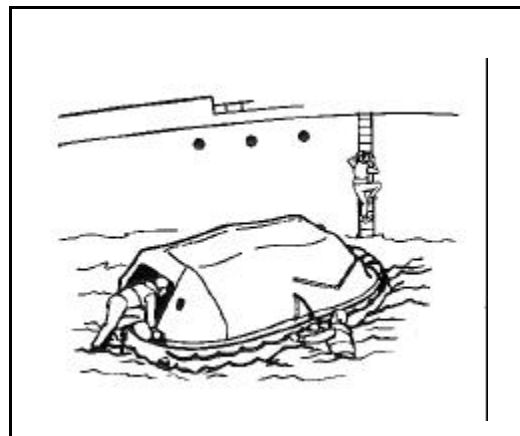

Figure 10-25. Boarding a Life Raft From the Sea
- By entering from the ship or from the sea (Figure 10-25).